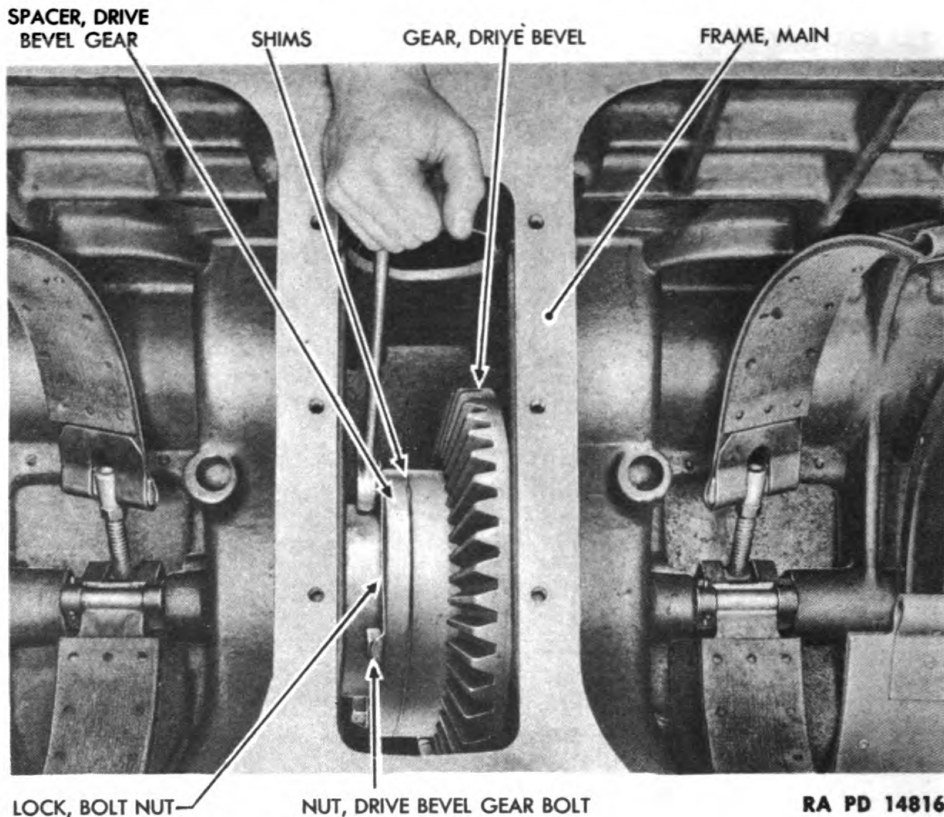

Figure 46 — Removing Cap Screws Which Hold Drive Bevel Gear Spacer to Drive Bevel Gear
(24) REMOVE DRIVE BEVEL GEAR SPACER FROM DRIVE BEVEL GEAR (fig. 46).